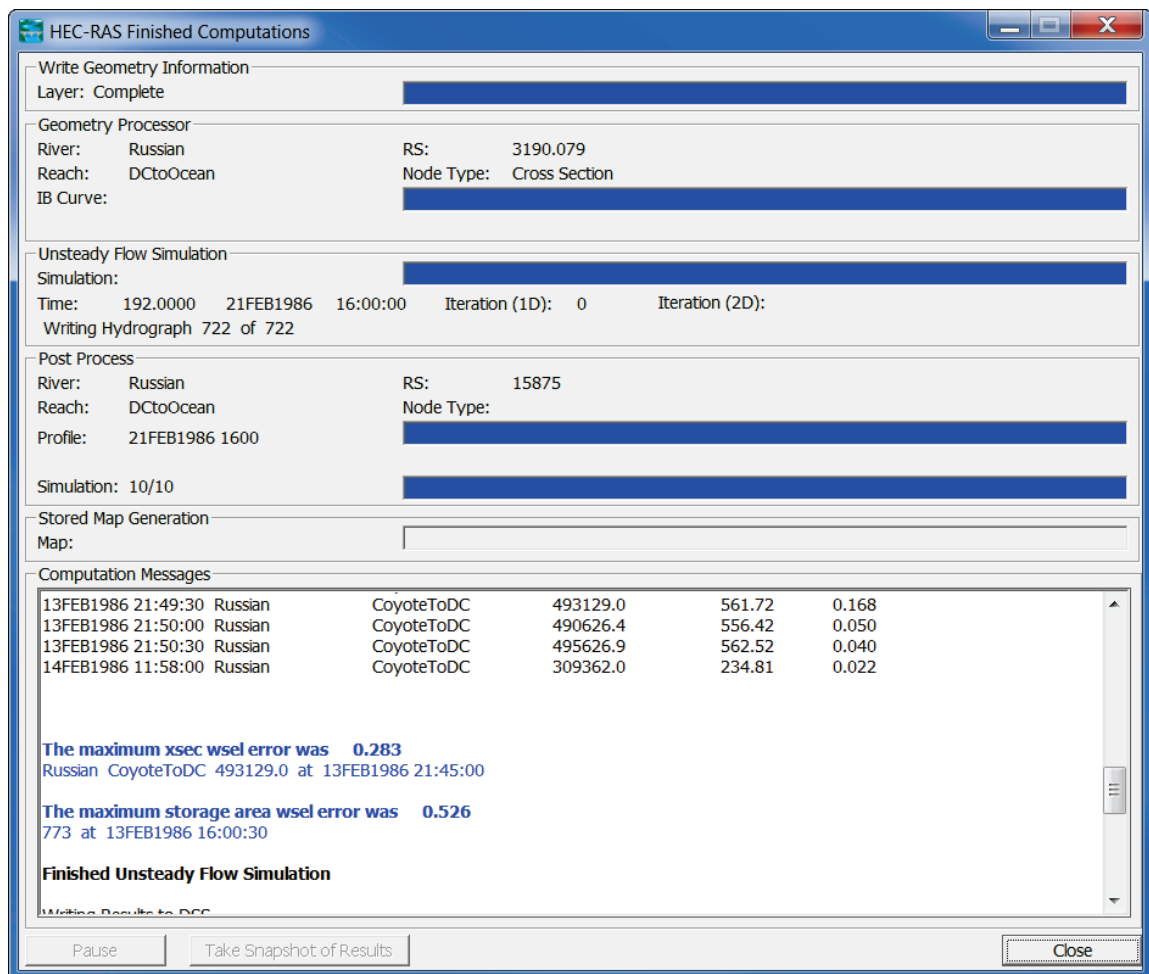

Figure B.20 HEC-RAS Computations Dialog Box
Another debugging option is to turn on debugging of XML calls and display the **HEC-RAS Computations** dialog box (Figure B.20) for the RAS software application. To enable this capability:
- Click **Debug XML calls to RAS** (Figure B.21), this will debug XML calls in the HEC-RAS software application, plus the **HEC-RAS Computations** dialog box (Figure B.20) will display during the selected simulation's compute. The tracking information will be written to the RAS log file (Section B.2.7). Click **Apply**, to set the RAS debug option.